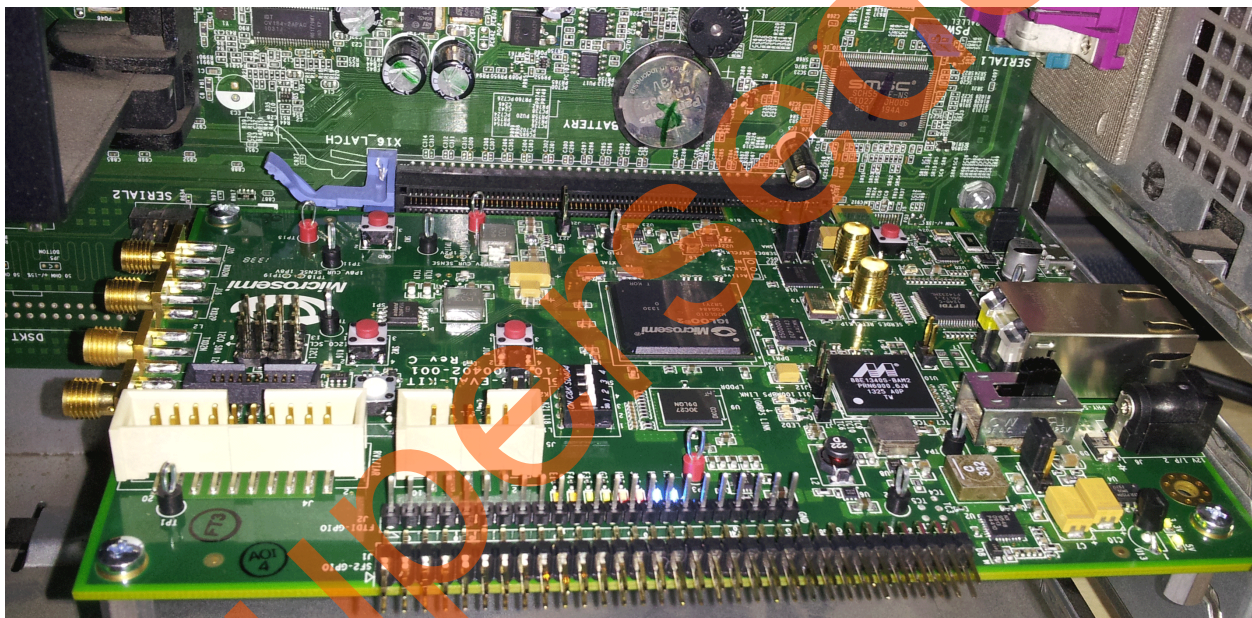

Figure 49 • IGLOO2 Evaluation Kit Setup for Host PC
3. Figure 49 shows the board setup for the host PC in which IGLOO2 Evaluation Kit is connected to the host PC PCIe slot. To connect the IGLOO2 Evaluation Kit to the Laptop using Express card adapter, refer to the "IGLOO2 Evaluation Kit Board Setup for Laptop" section.